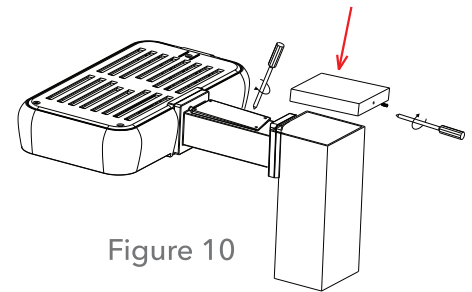

Figure 10
4. Close the pole cap, then tighten the screws on the side of the pole, and tighten the screws on the top of direct bracket (figure 10)